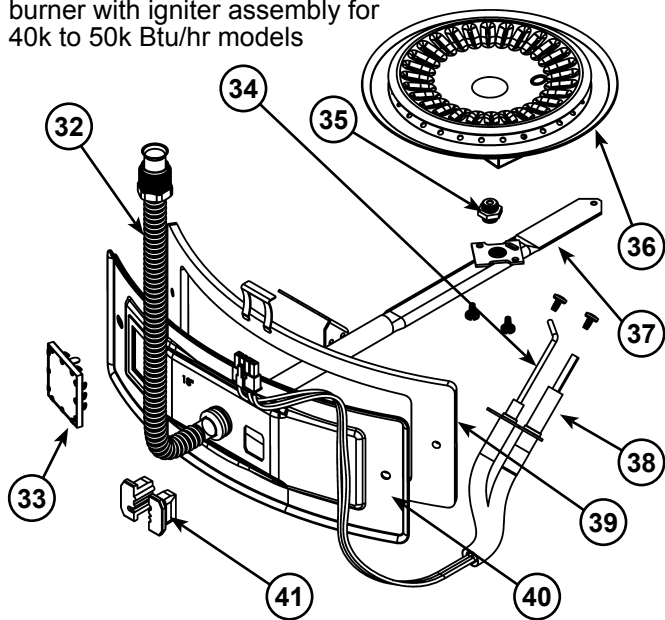

Figure 6
14. Manifold Door Assembly (behind outer door) (see Figures 6 & 7)
24. Junction Box Cover (see Figure 6)
32. Flexible Manifold Tube (see Figures 6 & 7)
33. Viewport (see Figures 6 & 7)
34. Flame Sensor Rod (see Figures 6 & 7)
35. Gas Orifice (see Figures 6 & 7)
36. Sheet Metal Burner (see Figures 6 & 7)
37. Gas Manifold (see Figures 6 & 7)
38. Hot-Surface Igniter (see Figures 6 & 7)
39. Manifold Door Gasket (see Figures 6 & 7)
40. Manifold Door (see Figures 6 & 7)
41. Two Piece Grommet With Clip (see Figures 6 & 7)